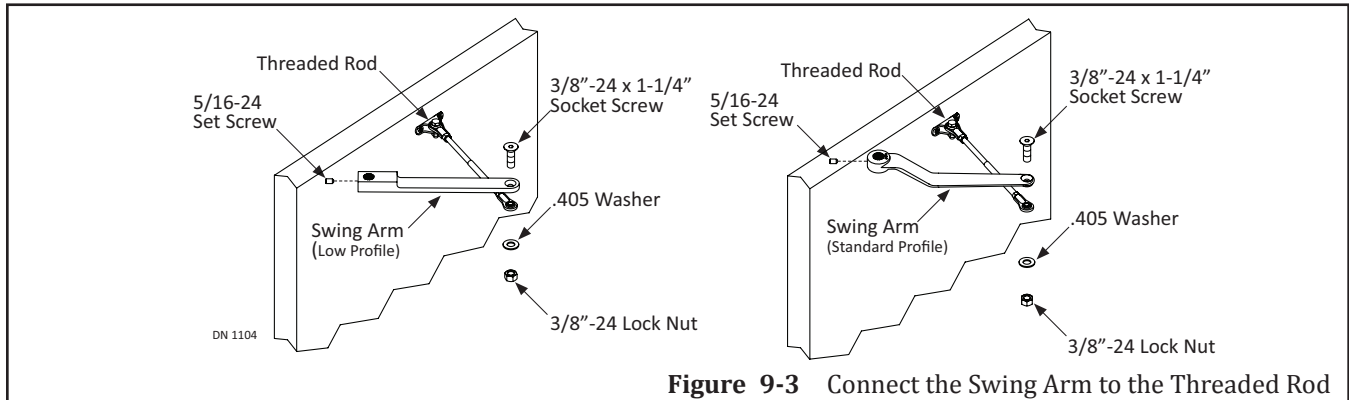

Figure 9-3 Connect the Swing Arm to the Threaded Rod
- Align the Screw hole at the end of Swing Arm to the Screw hole at the end of Threaded Rod. Please see Figure 9-3.
- Secure the Swing Arm to the Threaded Rod with (1) 3/8"-24 x 1-1/4" Socket Screw, (1) .405 Washer, and (1) 3/8"-24 Lock Nut.